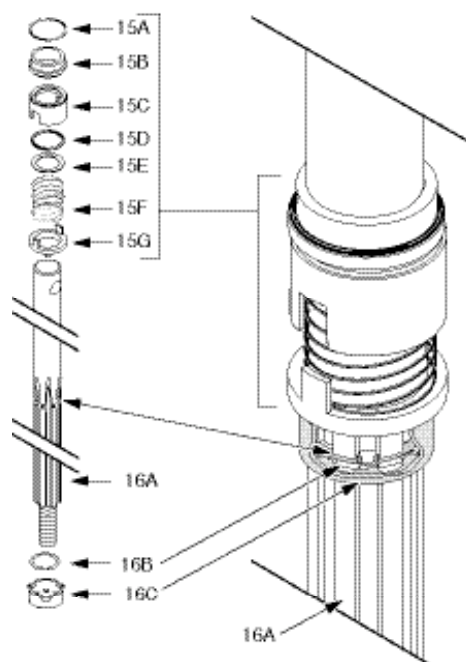

FIGURE 13
See Figure 13 for Seal Key Numbers.
3. The shaft seal consists of an O-Ring (Key No. 15A), the stationary half of the mechanical seal (Key No. 15B), the rotating half of the mechanical seal (Key No. 15C), a second O-Ring (Key No. 15D - inside No. 15C), a flat washer (Key No. 15E), a spring (Key No. 15F), and a mechanical drive ring (Key No. 15G), in that order, see Figure 13, below. Turn the pump head upside down and remove the stationary part of the seal (Key No. 15B) from the seal seat in the base of the motor bracket.